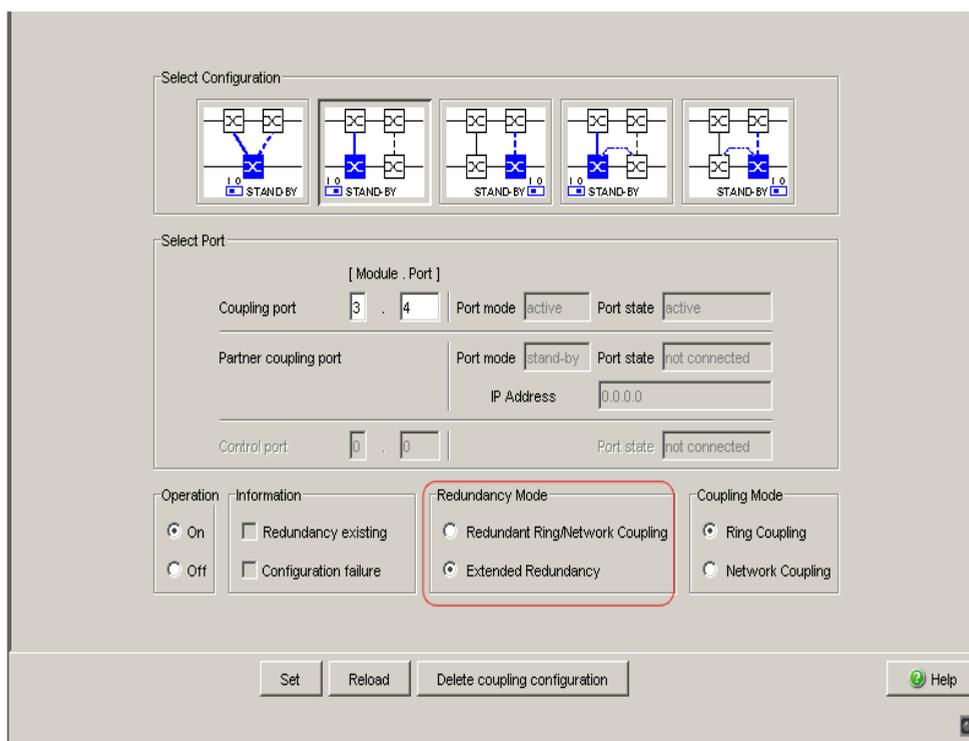

Figure 18: Two-Switch coupling: Selecting the redundancy mode
- In the “Redundancy Mode” frame, select (see figure 18)